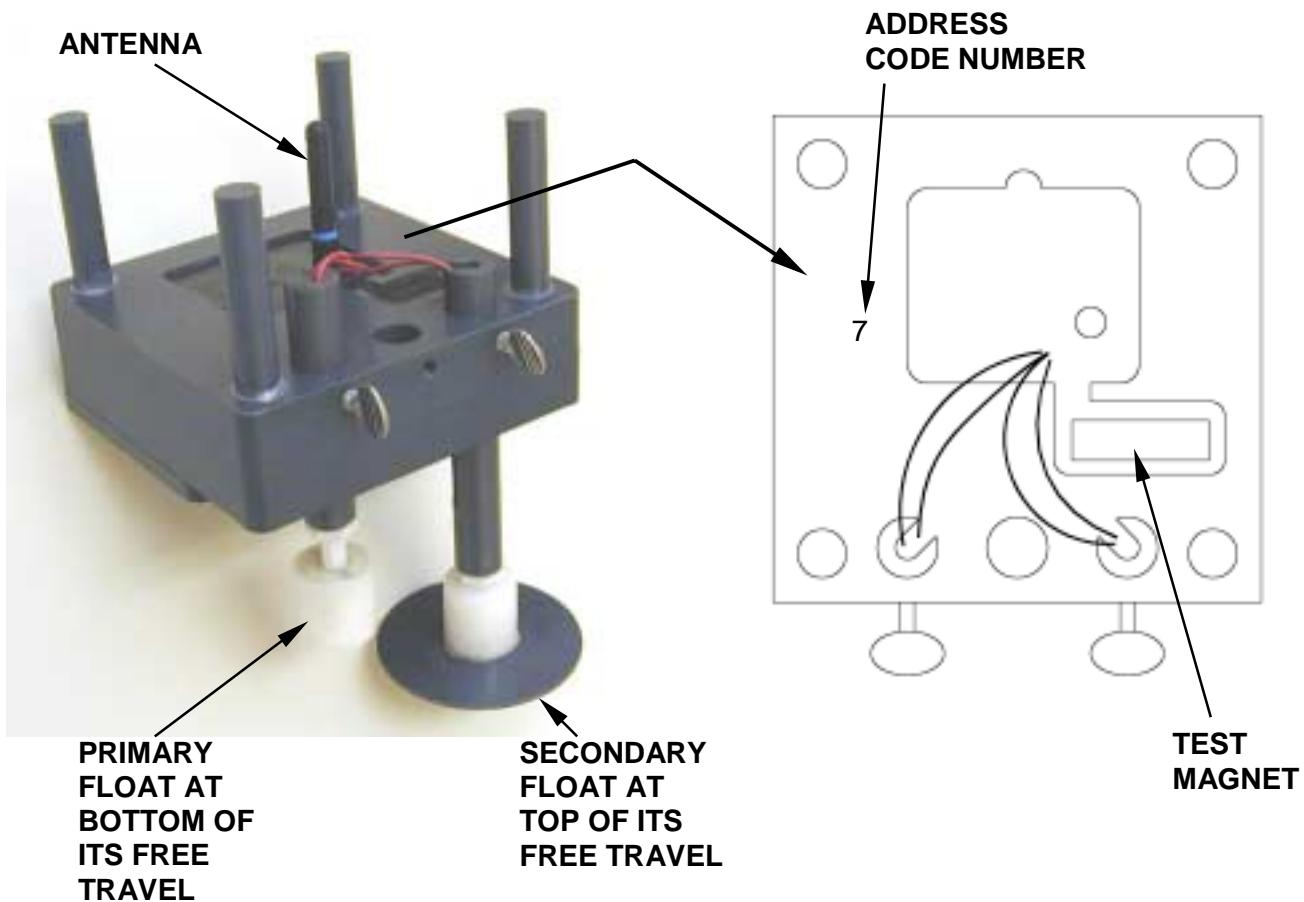

Figure 2-3. Preparing Transmitter for Communication Test
3. Refer to figure 2-3 and raise the secondary float to the top of its travel and allow primary float to rest at the bottom of its travel.